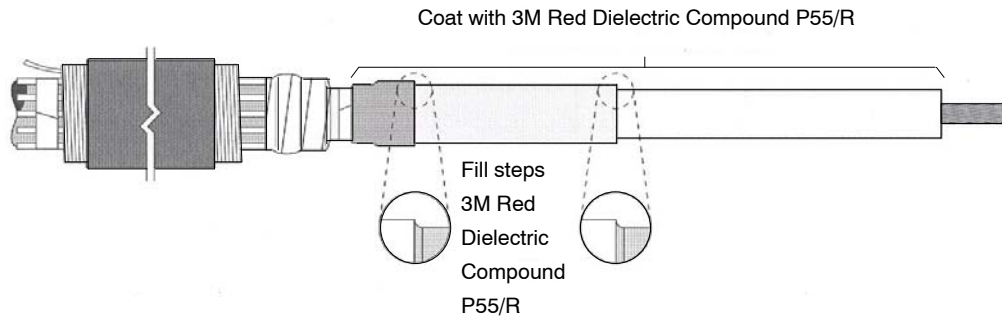

Figure 9
11. Apply 2 tubes 3M Red Dielectric Compound P55/R to the exposed insulation and stress control adapter. Fill the top edge of the stress control tube and the semi-con step with the 3M Red Dielectric Compound P55/R. (Figure 9)